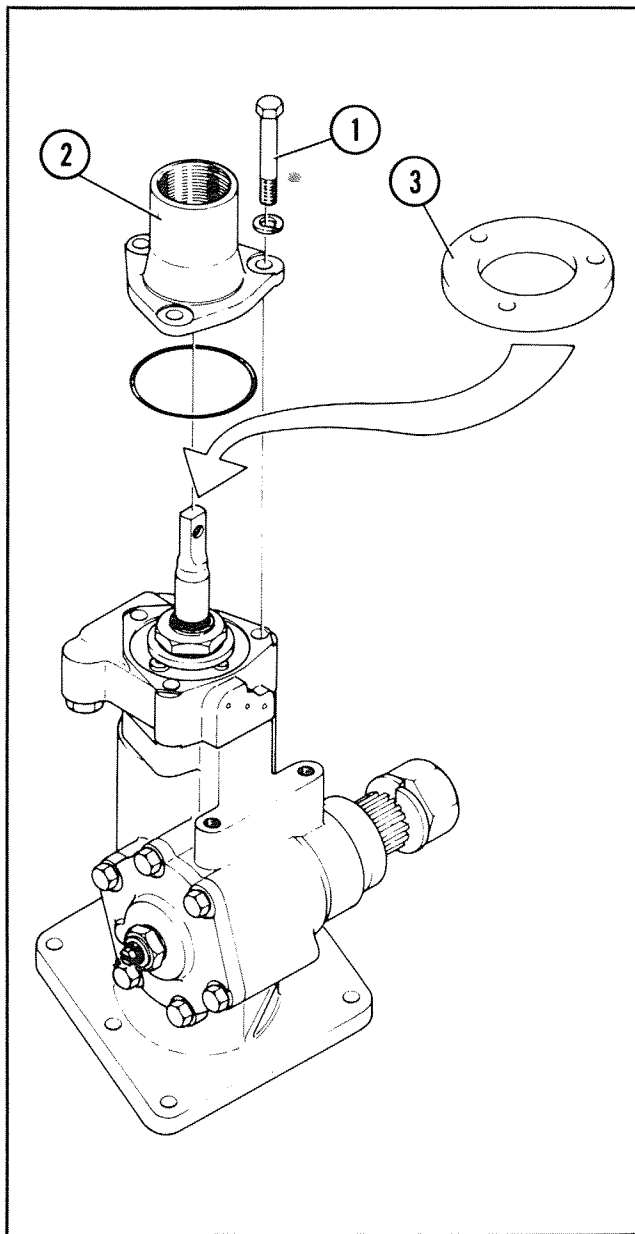

**Figure 29**
1. Remove the column (1) from the gear box, Figure 29.
2. Straighten the rivet (2) and pull out the rivet and spring pin (3), Figure 29.
3. Remove the steering shaft (4) and pull out the spring (5), Figure 29.